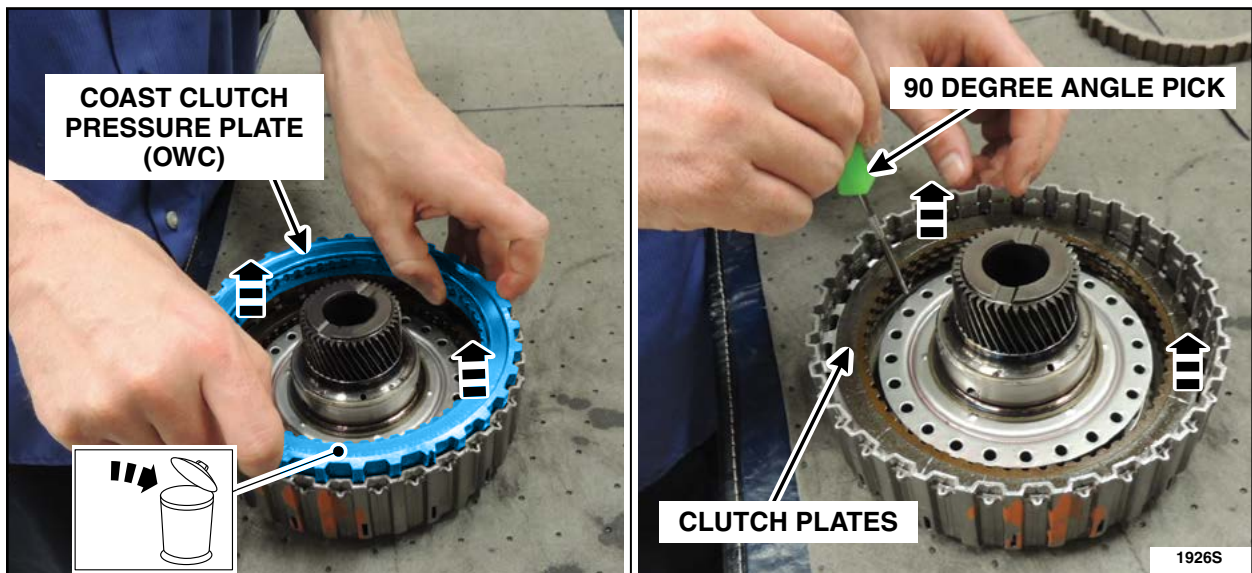

FIGURE 19
See Figure 19.
25. Install the *new* coast clutch pressure plate OWC assembly and the clutch plates starting with the externally splined steel clutch plate. See Figures 19, 28a and 28b.